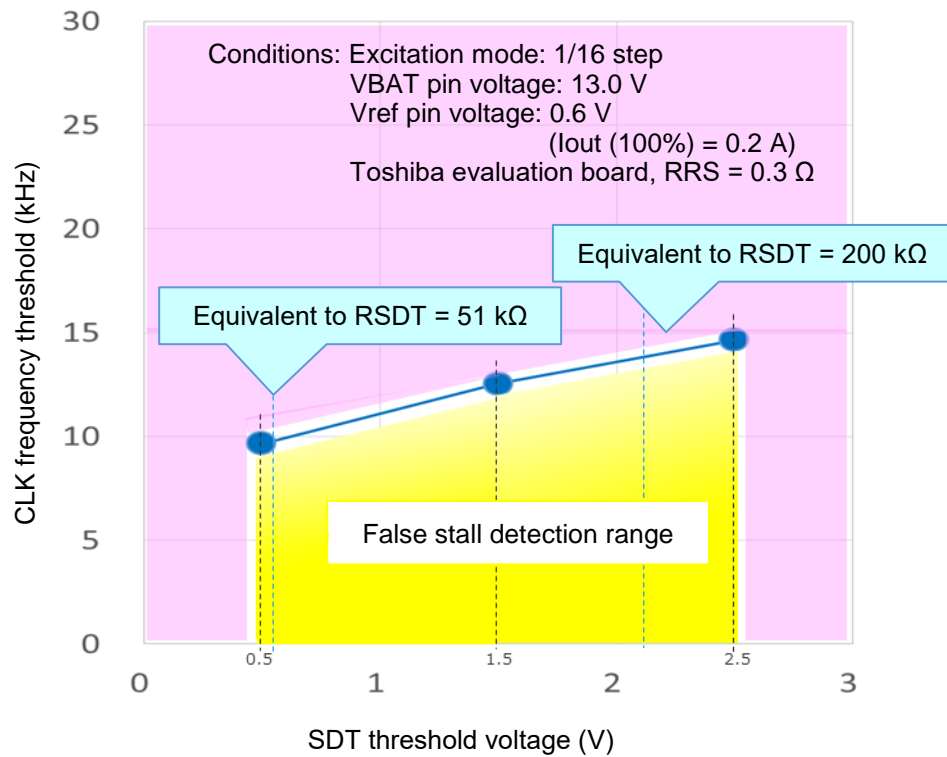

Figure 10. SDT threshold voltage vs. CLK frequency threshold (for reference)
- As shown in Figure 10, the result is as follows: